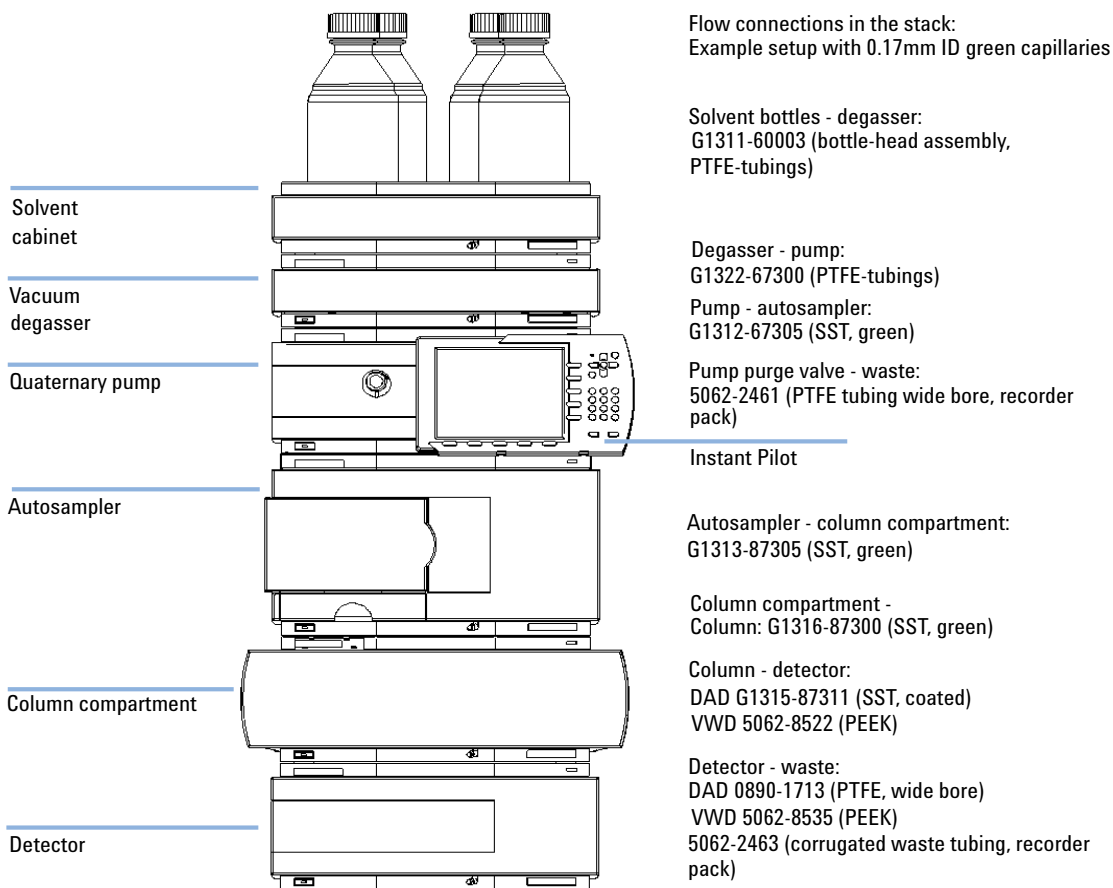

Figure 5 Recommended Stack Configuration (Front View)
- 1 Place the individual modules in a stack configuration as shown in Figure 5 on page 33.
- 1 Place the vacuum degasser in the stack of modules as shown in Figure 5 on page 33.